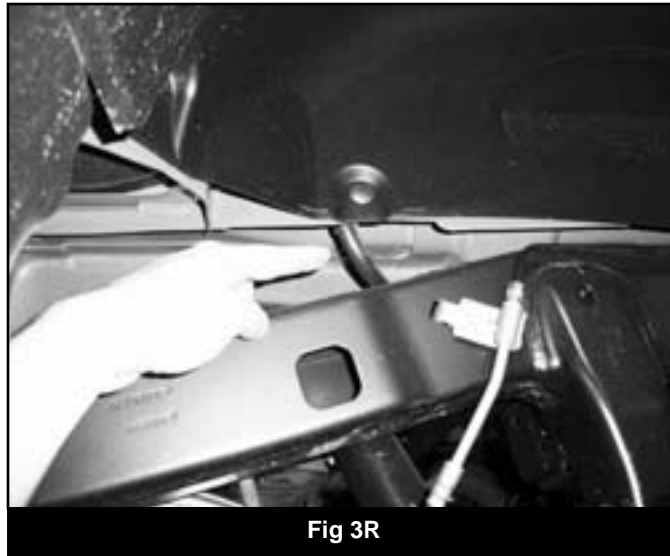

Fig 3R
7. Disconnect the factory rear brake line from the hard line at the frame (Fig 3R) and caliper on the axle. Remove bolt mounting the brake line to the frame and discard the brake line. Retain the lower banjo bolt and the frame bracket mounting bolt.
10. Disconnect the axle breather tube from the plastics retainer (Fig 3R) at the body (passenger's side inner fender). Also, free the tube from the frame by releasing the metal clip. The clip should remain on the tube.